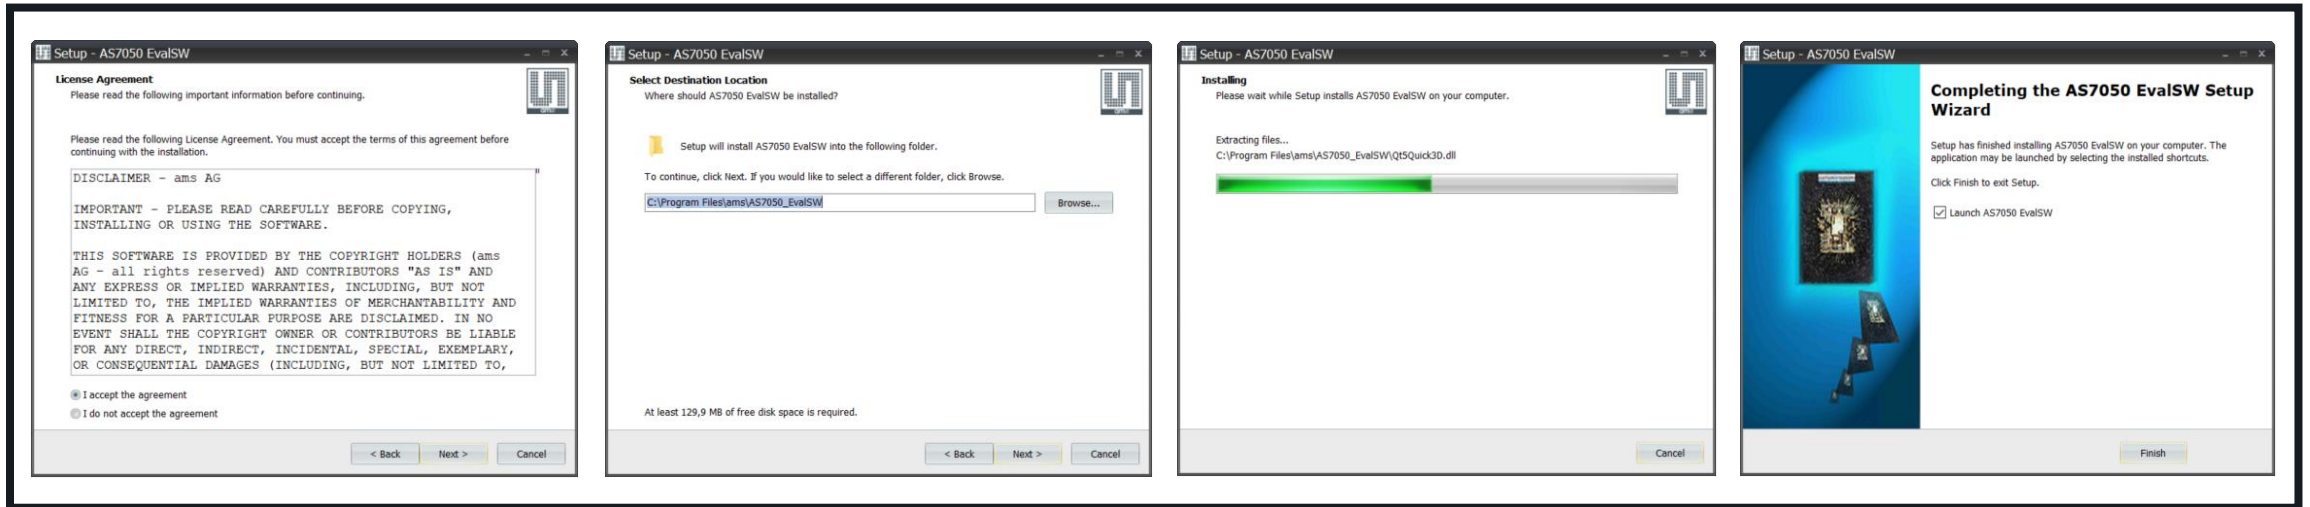

Fig. 3: AS7050 Software Installation steps
- To install, start the installer executable and follow the instructions as shown in *Fig. 3* below (from left to right).